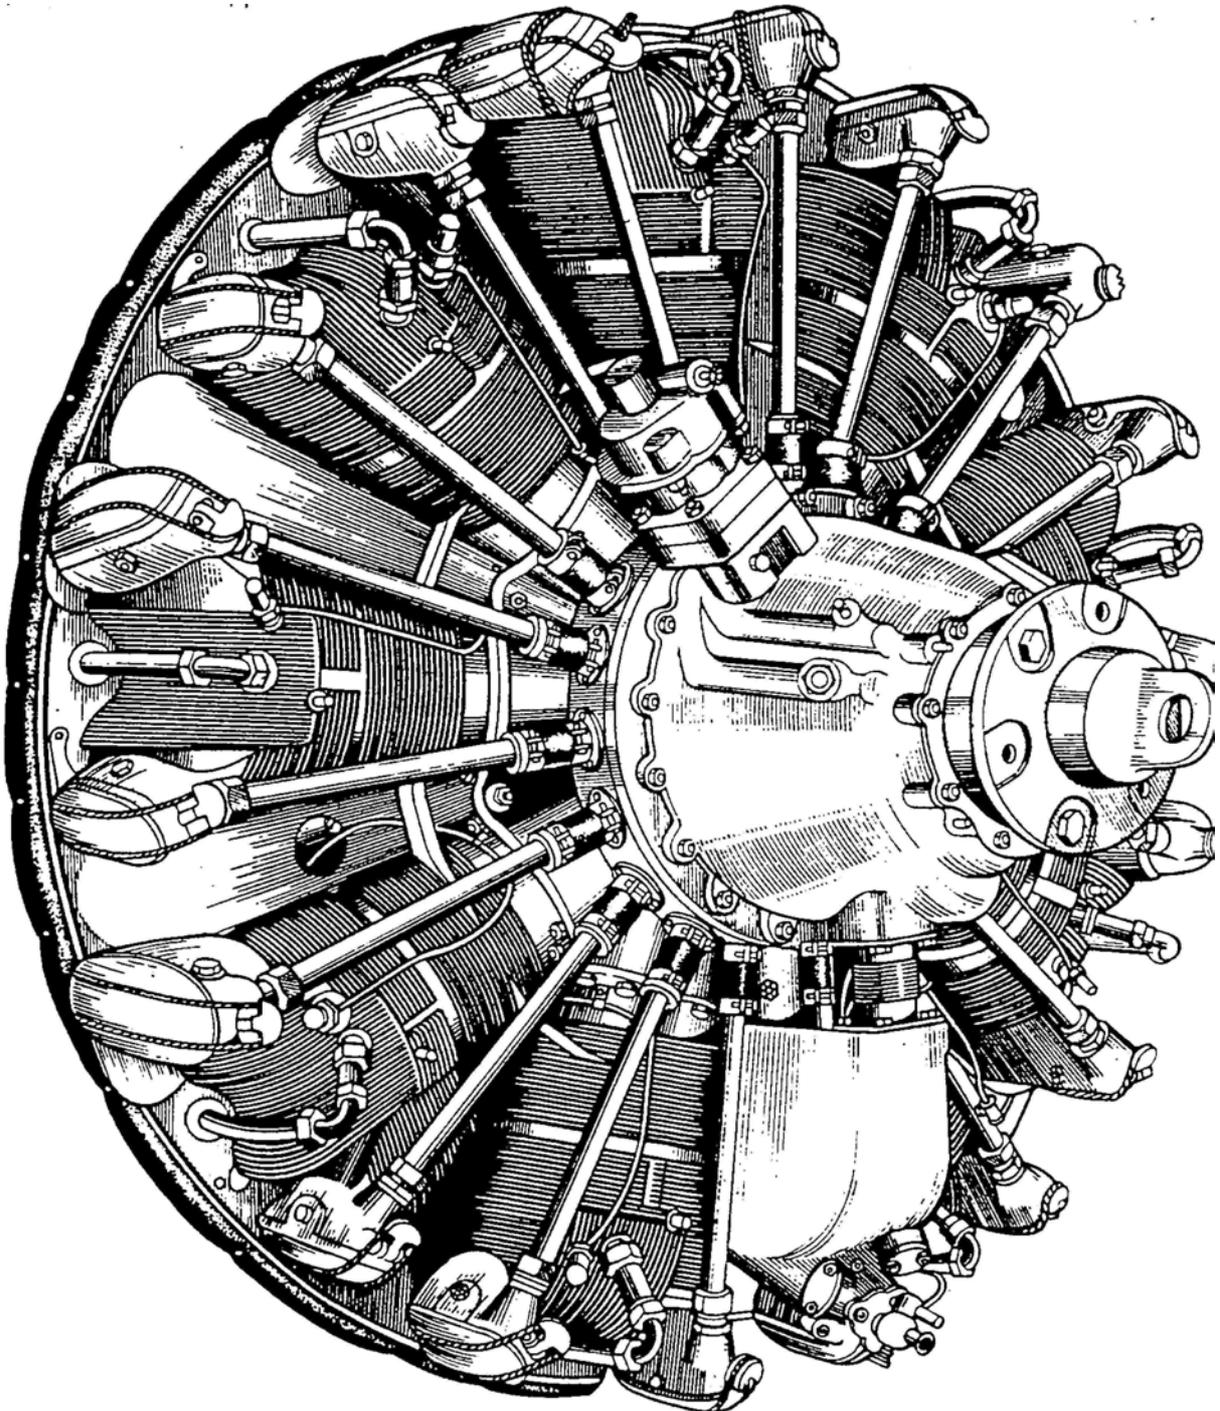

Fig.1 – FRONT VIEW
- Front View -The observer stands in the front of installed engine propeller shaft (fig.1).